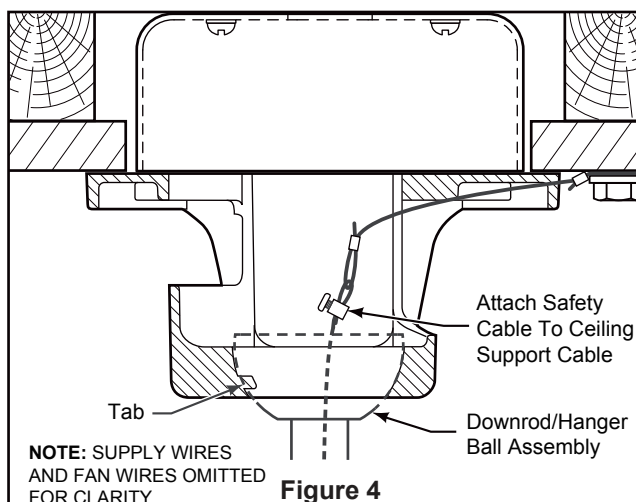

Figure 4
- ☐ **4.** Loosen the two set screws and locking nuts in the downrod support of the motor assembly. Route the brown, blue, red, gray, yellow wires and safety cable through the downrod. (Figure 4)
- ☐ 4. Carefully lift the fan and seat the downrod/hanger ball assembly onto the hanger bracket that was just attached to the outlet box. Be sure the groove in the ball is lined up with tab on the hanger bracket. (Figure 4)
- ☐ 5. Attach the safety cable to ceiling support cable. Slide cable clamp and washer onto safety cable (from fan). Place the end of cable through the loop of ceiling support cable. Pull as much cable through loop as possible. Feed end of cable into clamp hole and firmly tighten screw. (Figure 4)
3. Connect wires using connectors as shown in Figure 4.